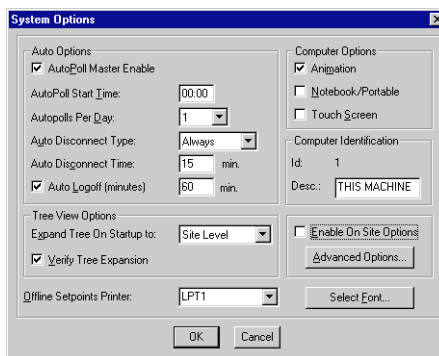

Figure 7 - System Options Dialog Box
1. From the System menu in the UltraSite toolbar, select the System Options option. The System Options dialog box (*Figure 7*) should appear.